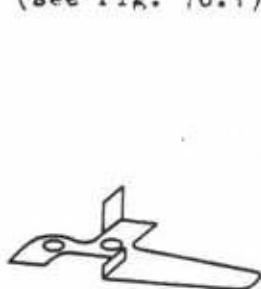

Fig. 75.1
4.2 The two protruding tags of the plate washer 42 531-673 must be bent upwards at right angles with a pair of tweezers (see Fig. 75.1).